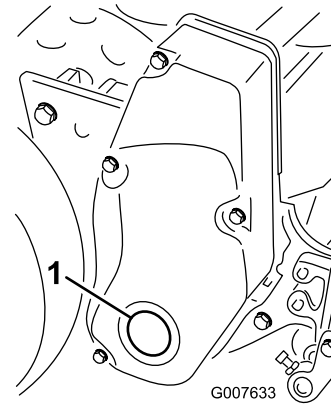

Figure 56
- Remove the plug in the right reel drive cover (Figure 56).